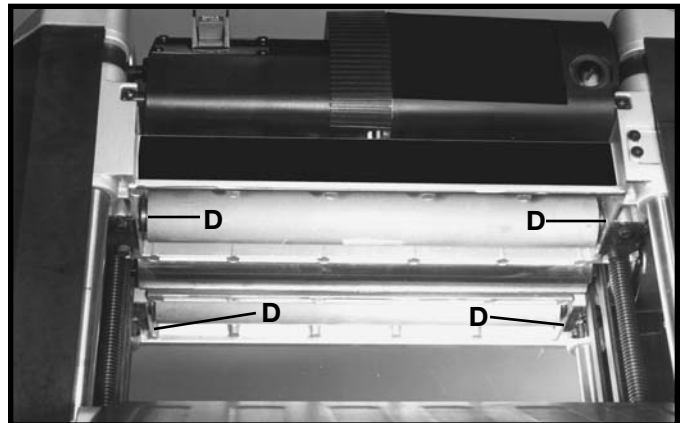

Fig. 40
3. Lay the planer on its back and squirt oil on the feed roller bushings (D) Fig. 40, at each end of the feed rollers.